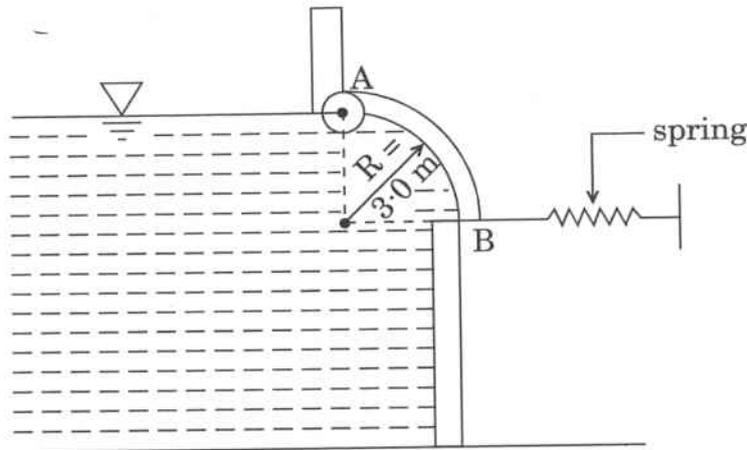

Figure 7(c)
- (c) A 4 m long quarter-circular gate of radius 3 m and negligible weight is hinged about its upper edge A as shown in Figure 7(c). The gate controls the flow of water over the edge at B, where the gate is pressed by a spring. Determine the minimum spring force required to keep the gate closed when the water level rises to A at the upper edge of the gate. Assume the density of water to be  $1000 \text{ kg/m}^3$  throughout.